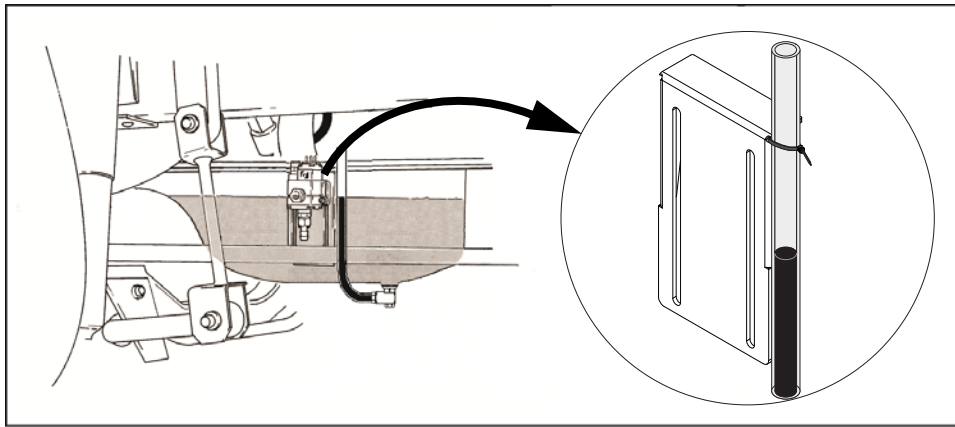

Figure 3.4 Determining the oil level
10. Attach the other end of the transparent hose to the side of the sensor bracket with a cable tie (Figure 3.4). Make sure that the top of this hose sticks out above the imaginary level in the sump.
12. Now continue with the installation of the Oilmaster and allow sufficient time (minimal 1 hour) for the final oil level in the transparent hose to level with the oil in the sump (Figure 3.4).